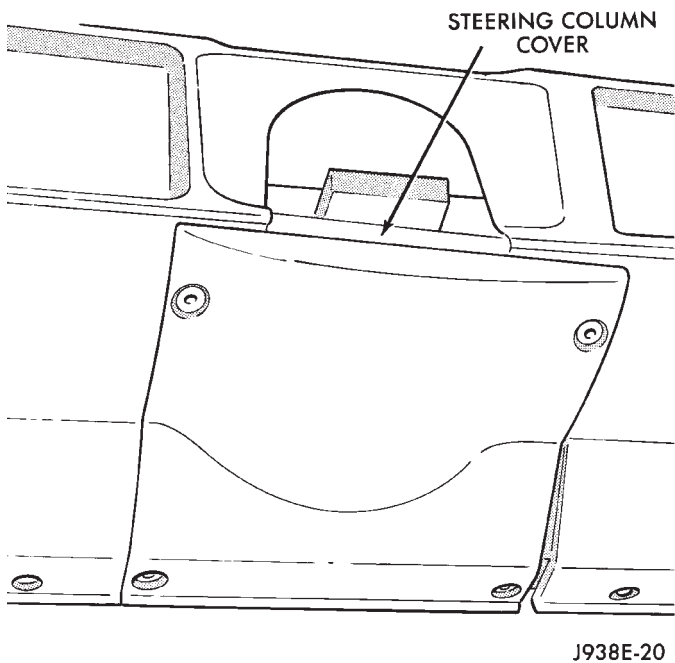

Fig. 8 Steering Column Cover
(10) Open glove box and remove 2 screws holding dash pad.
(11) Remove dash pad pulling up to unsnap end clips.
(12) Remove 4 screws holding the steering column cover (Fig. 8).